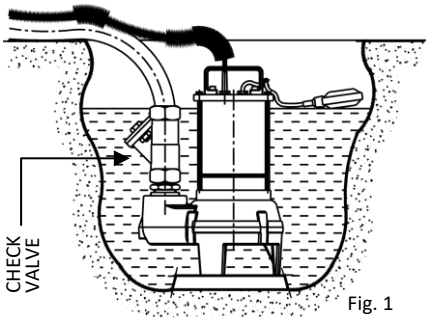

Fig. 1
- If the bottom of the well or the surface on which the pump rests is uneven and there is the possibility of stones, debris, mud, etc., accumulating there, lay a level raised supporting base (Fig. 1).
- To avoid the backflow of liquid from the discharge manifold, install a check valve after the pump delivery outlet (Fig. 1).